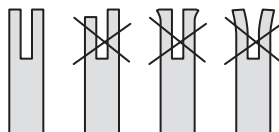

Fig.42
5. Check the guide bar 'rail' for wear: Hold a ruler (straight edge) against the side of the guide bar and 'cutter side plates'. If there is a gap between the ruler and guide bar the guide bar 'rail' is normal. If there is no gap (ruler flush against the side of the guide bar) the guide bar 'rail' is worn and needs to be replaced with a new one of the same type (Fig. 42).